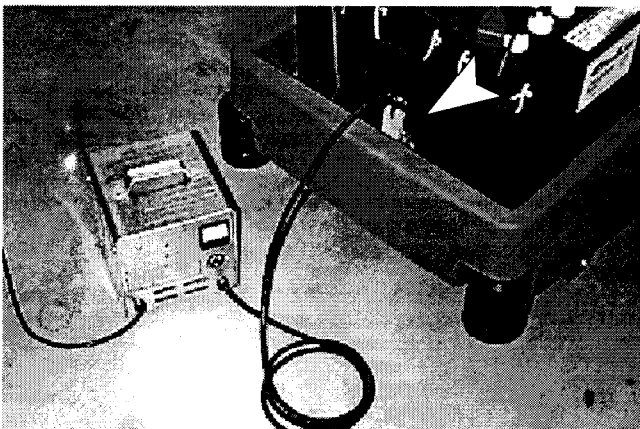

FIG. 23.
- Plug charger into charger receptacle located at front of battery compartment. (Figure 23)